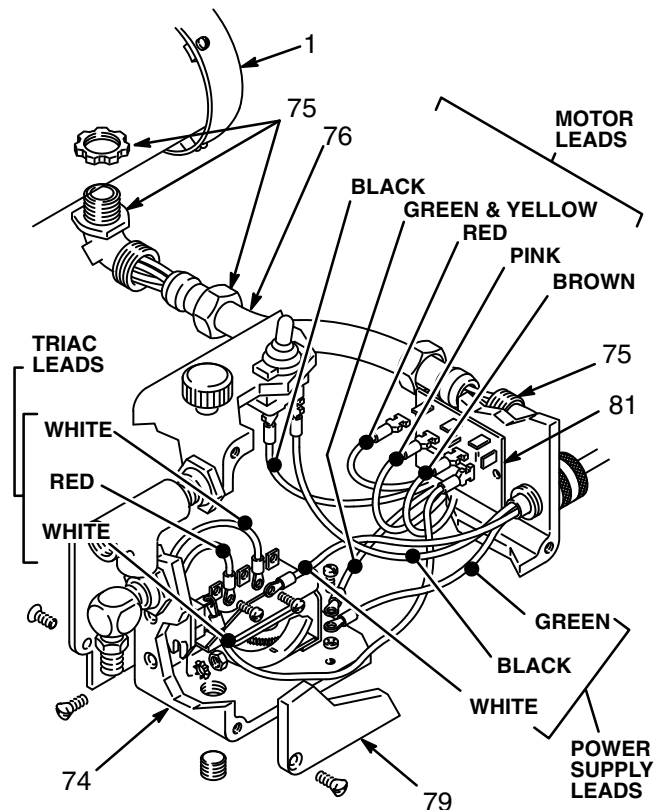

Fig 10
1. Remove the pressure control cover (79). Pull the circuit board (81) out carefully, just enough to reach the wire terminals. Disconnect the leads. Remove the board. See Fig 10.
3. Disconnect the remaining two motor leads (black and green/yellow). See Fig 10.
5. Pull the pressure control (74) away from the conduit (76) and carefully guide the leads through the connector (75) one at a time. See Fig 10.
8. Position the circuit board (81) in the pressure control so the wire connectors are at the top. Connect the leads to the board as shown in Fig 10. Guide the leads into the pressure control, making sure they don't catch on anything. Slide the board into place.
9. Connect any other loose wires. See Fig 10.
See wire colors in Fig 10.